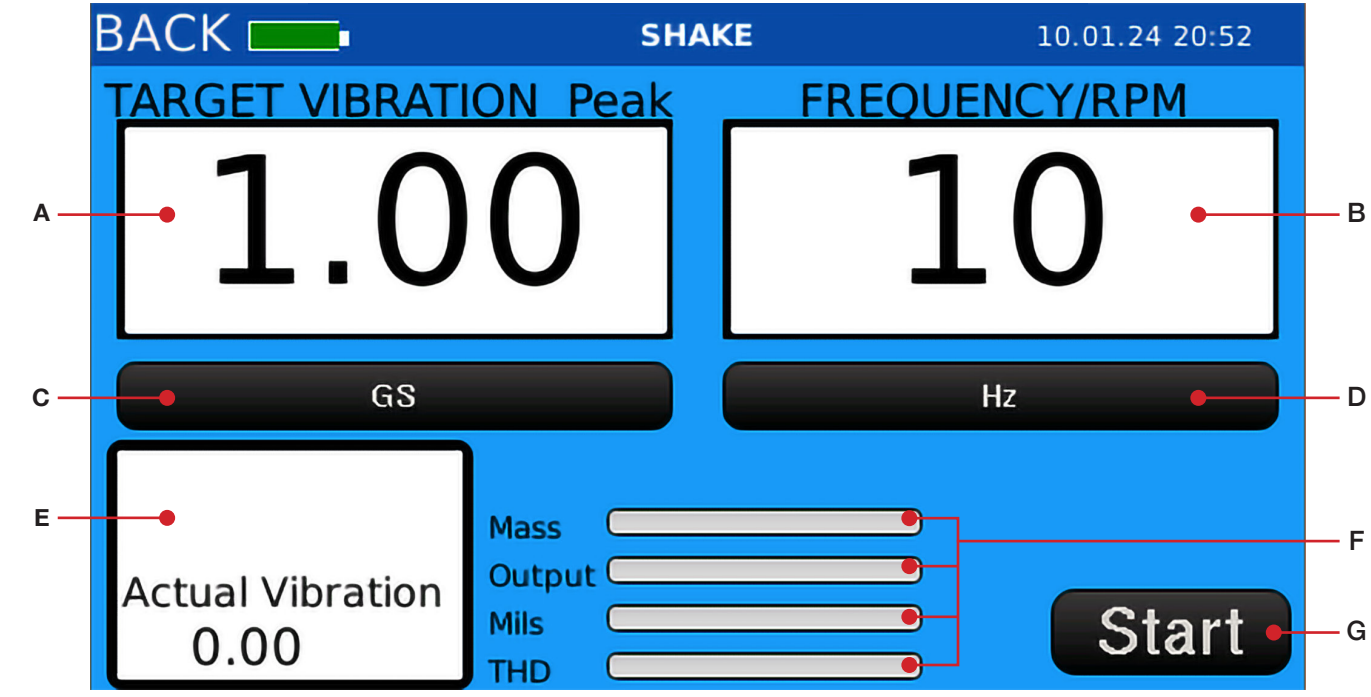

Figure 4. Shake mode screen
1. To begin the test (*Figure 4*):
During the test the amplitude and frequency may be adjusted (*Figure 4*).
During the test, the values shown in the onscreen amplitude display and frequency/RPM display may be adjusted (*Figure 4*):
Purewave is the distortion compensation algorithm. The status of Purewave is indicated by the color of the Reference data point (*Figure 4*):